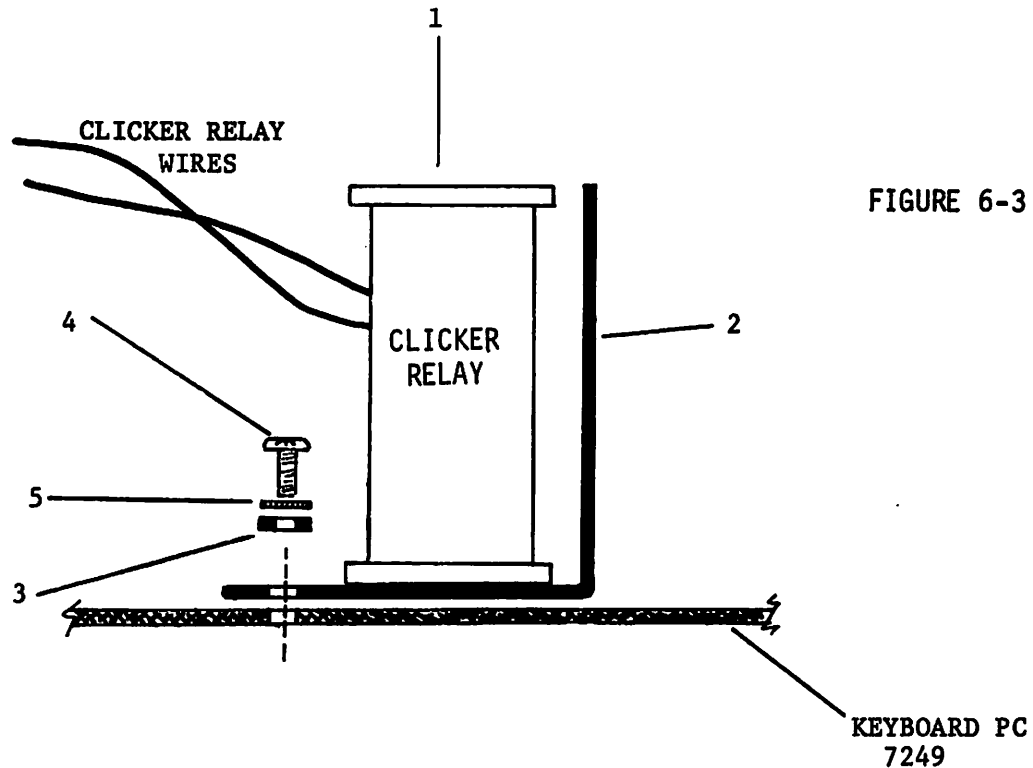

FIGURE 6-3
2. Proceed as follows for key "clicker" relay installation (Ref: Figures 6-3, 4).